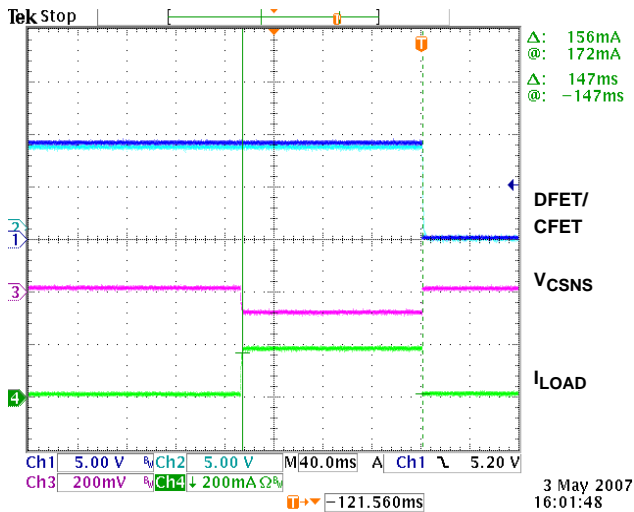

FIGURE 10. CHARGE OVERCURRENT TEST
- Turn the charge emulation power supply output on. This causes the ISL9216 to detect an overcurrent condition, which turns the FETs off. Figure 10 shows a charge